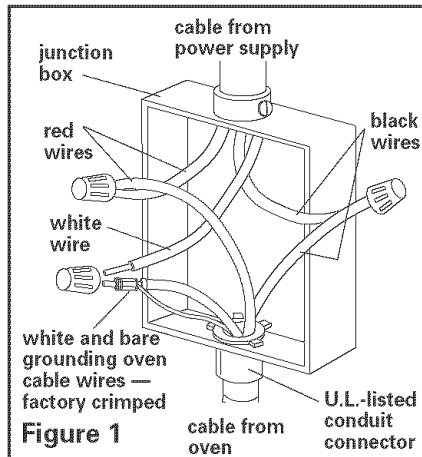

Figure 1
- 7.** Connect the factory-crimped bare and white oven cable wires to the neutral (white) wire in junction box. See Figure 1.